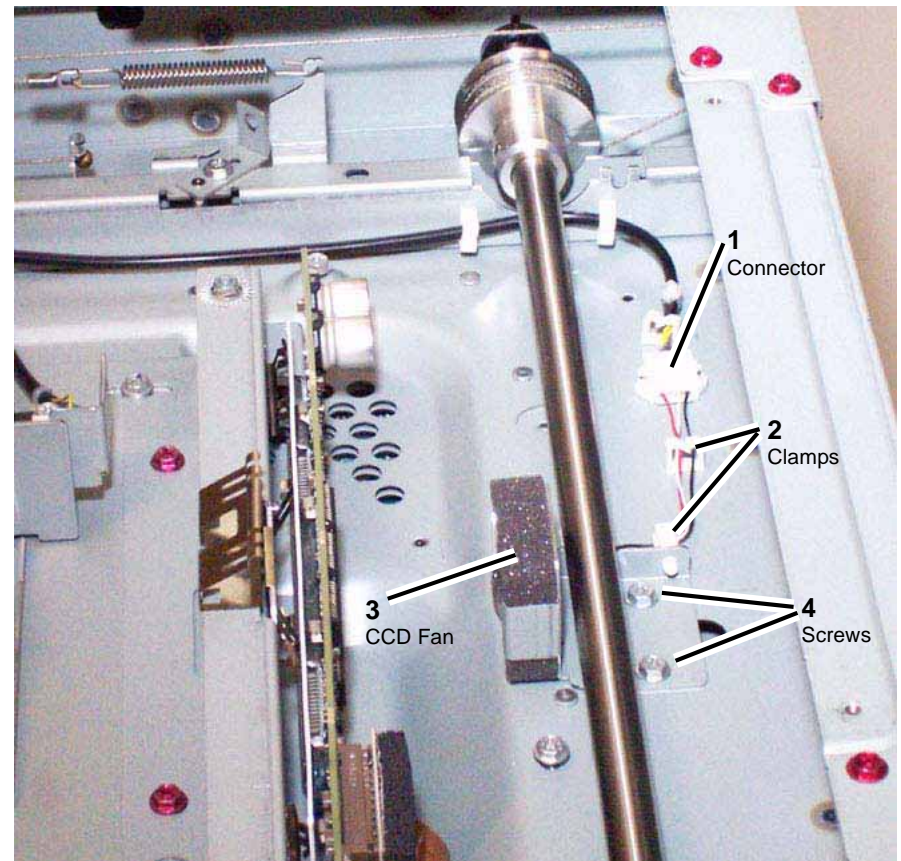

Figure 1 CCD Fan and wire harness
3. Remove the CCD Fan. Figure 1
- c. Remove the screws (2).